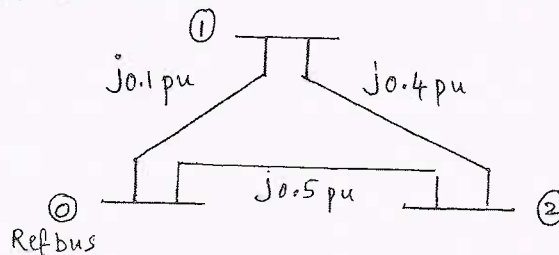

Fig.Q10(a)
- 10 a. Obtain  $Z_{bus}$  by  $Z_{build}$  technique for the system shown in Fig.Q10(a). All values are in pu (impedance). Take bus '0' as reference bus. Add the elements in the order ref bus to bus 1, ref bus to bus 2 and lastly bus 1 to bus 2.